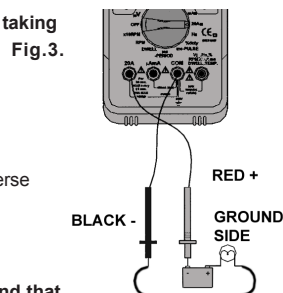

Fig.3.
4.8.4. Touch the test probes in series (fig.3.) with the circuit under test and read the current on the display.